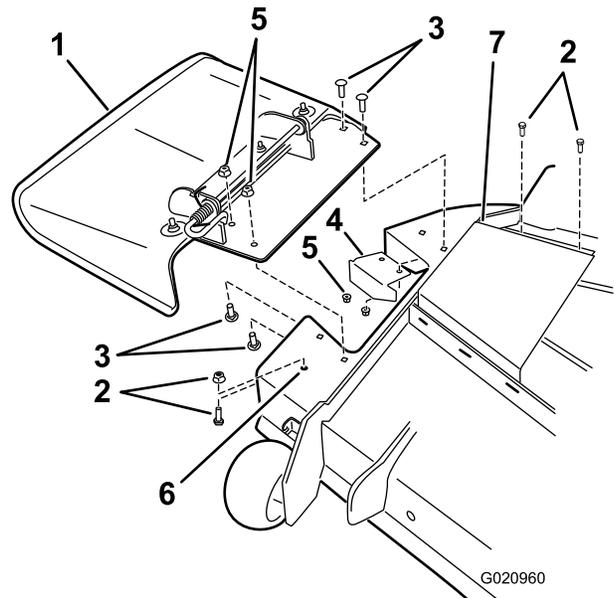

Figure 1
4. Remove fasteners securing the deflector assembly and existing cutoff baffle to the deck (Figure 1). Retain all fasteners.
5. For 54 inch mower decks only, remove the fasteners plugging the forward hole. (Figure 1).
2. Loosen the right-hand, belt-cover bolts (Figure 1).